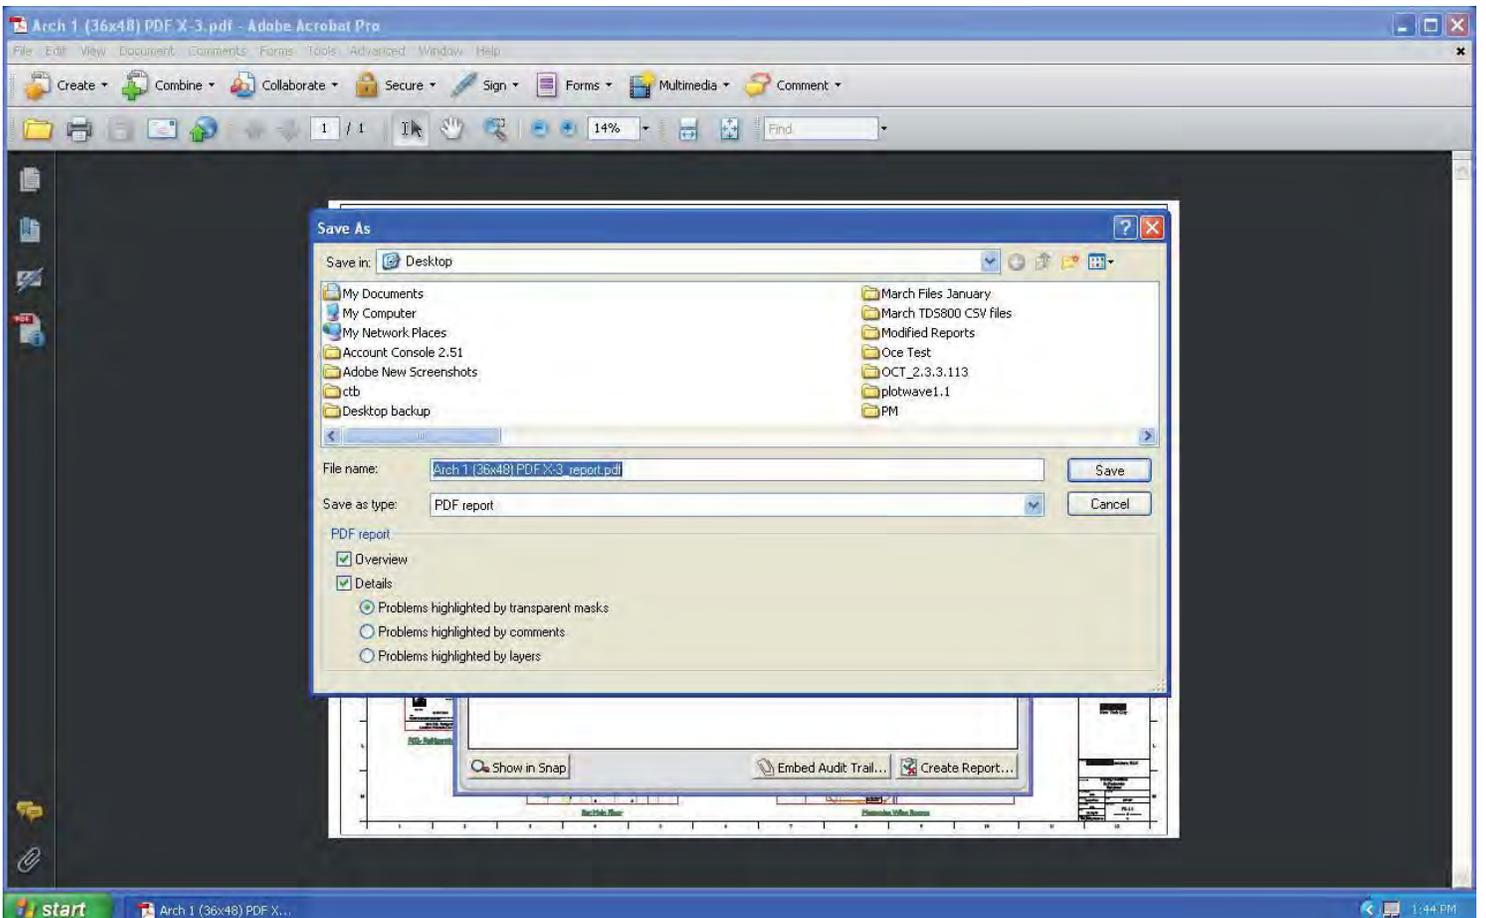

Fig. 7
7. Click Save As and name the new PDF file. This will convert the PDF based on the selected profile and settings (Fig 7).